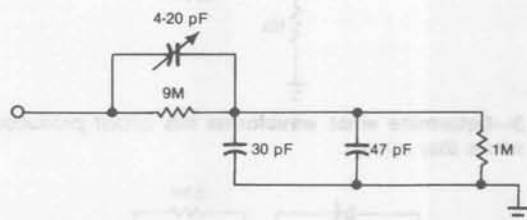

Fig 2—What function might this network serve? Determine its response characteristics.
3. Determine the response characteristics of the network shown in Fig 2. What useful function might such a network serve? Why?
2. Less is better! In the original circuit, level shifting and voltage gain come from the popular high-speed 2N2639 transistor. The common-emitter configuration proves relatively slow (due to storage charge) and inverts the signal. The improved version (Fig 2) uses the common-base configuration because of its high speed and noninverting characteristics. This arrangement provides 10-nsec rise and fall times plus lower component count.